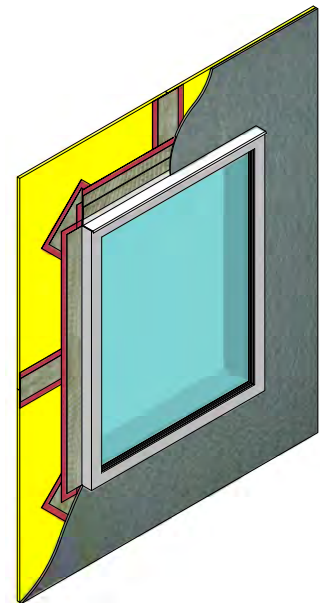

Figure 30
9. Apply SENERSHIELD-R or SENERSHIELD-VB per the product bulletin instructions over the substrate. (See Figure 30)